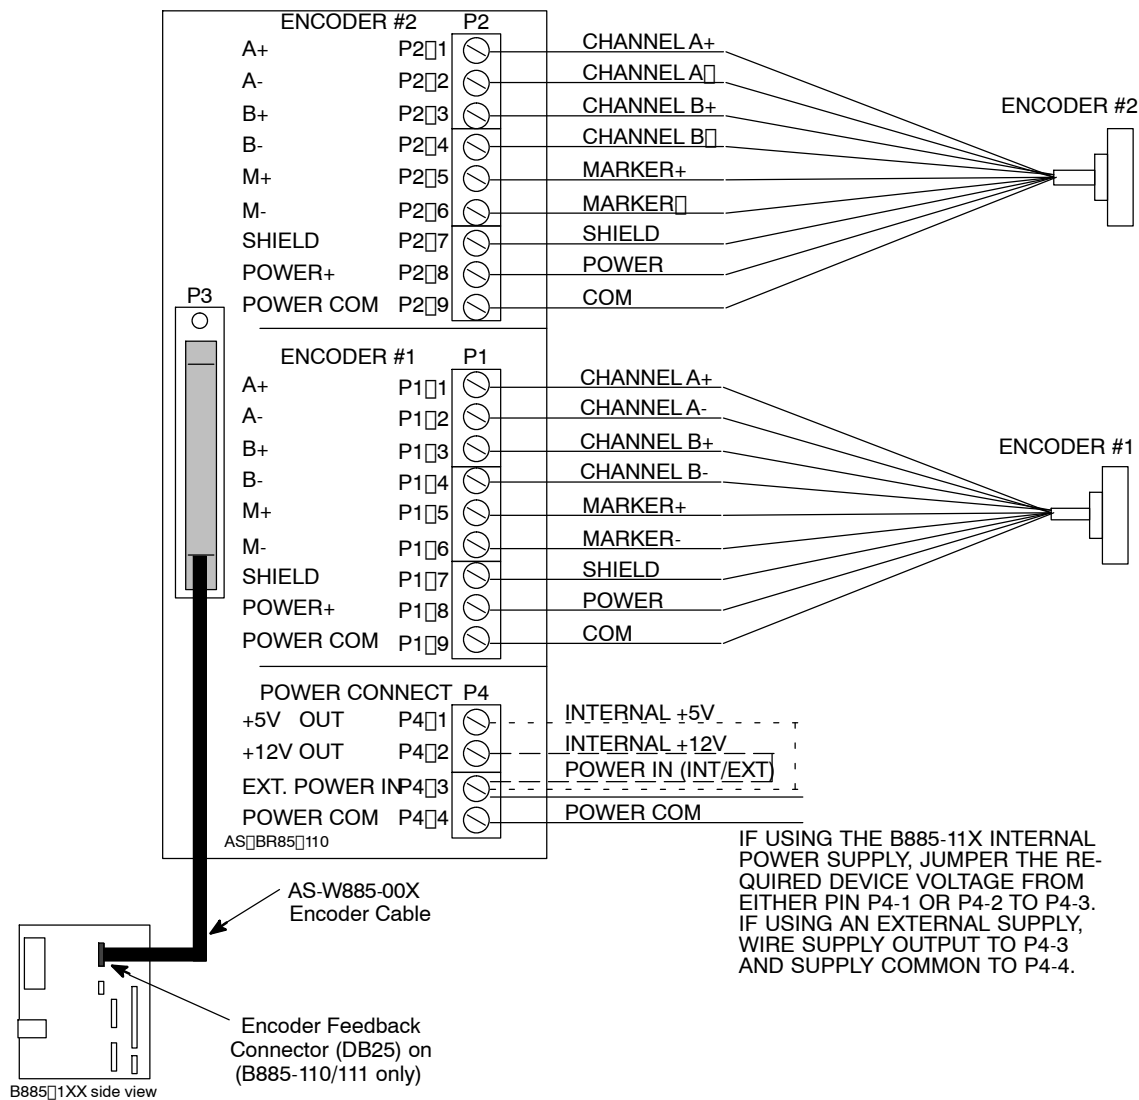

Figure 13 Typical Encoder Signal Wiring to Breakout Box
Connection to the encoders is through a cable and breakout box. The breakout box is a rail mountable terminal block PCB assembly and accommodates discrete wiring from the encoder(s). It has a female DB25 connector for the cable attachment and the terminals are clearly marked with the appropriate encoder connections. Refer to Figure 13.
- Step 21** Connect Encoder Cable (part number AS-W885-00X) from breakout box connector P3 to the Encoder Feedback connector (DB25) on the B885-11X. Refer to Figure 13.